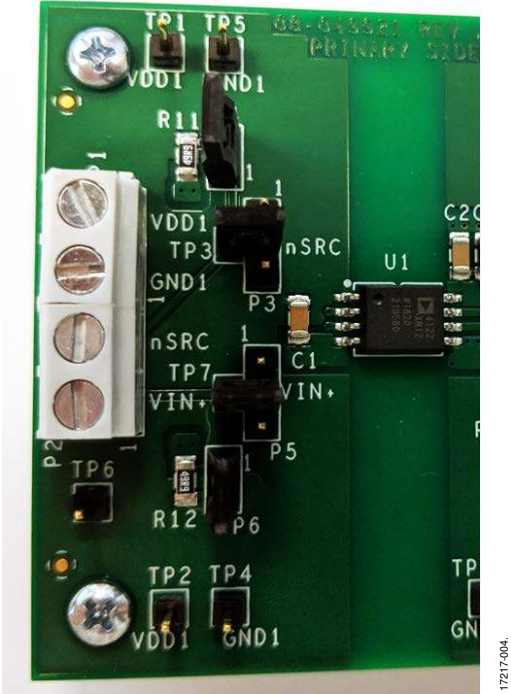
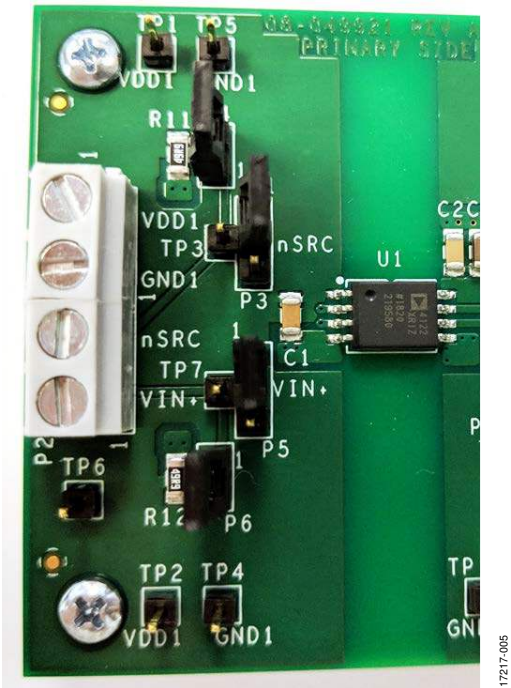
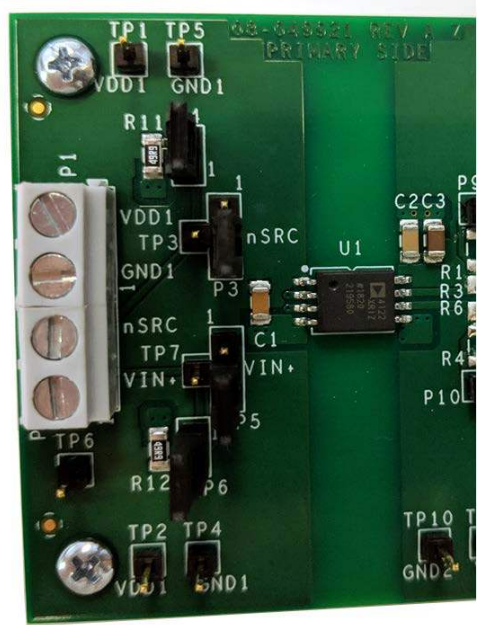

Figure 4. P3 and P5 Configured for Screw Terminal Input
Figure 5. P3 and P5 Configured to Connect Inputs to V_{DD1}
Figure 6. P3 and P5 Configured to Connect Inputs to GND1
7. P3 and P5 tie the V_{IN+} and \overline{SRC} pins to V_{DD1} or GND1 for faster dc evaluation setups (see Figure 4, Figure 5, and Figure 6). If using P3 or P5, do not drive the pin that is connected by a jumper to an external signal generator.